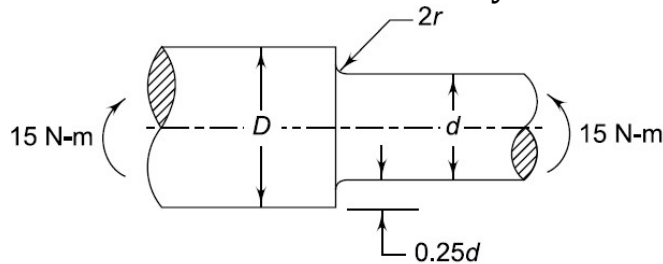

Fig.2
4. A round shaft made of a brittle material and subjected to a bending moment of 15 N-m is shown in Fig.2. The stress concentration factor at the fillet is 1.5 and the ultimate tensile strength of the shaft material is 200 N/mm². Determine the diameter d , the magnitude of stress at the fillet and the factor of safety.